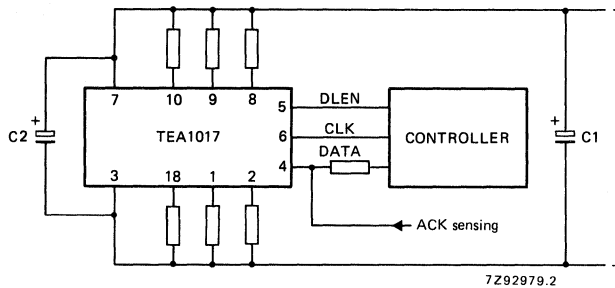

Fig. 5 TEA1017 with 3 loads to V_{CC} $Q = 0$ and 3 loads to V_{EE} $Q = 1$.
2. If no use is made of the acknowledge information it is advised to program the data-output from the controller to LOW during the time ACK is valid. To use the acknowledge information the data-output has to be programmed HIGH. When a push-pull controller device is used a series resistor has to be connected in the data-line between the controller and TEA1017. The ACK may be sensed on the TEA1017-side of this resistor. See Fig. 5.
In the frequency regulation mode the output is LOW from the start of the cycle until the voltage on the capacitor reaches 2 V. The capacitor is further charged until its voltage reaches the voltage on either the feedback input FB or the limit setting input LIM, provided it has exceeded 2,2 V. As soon as the capacitor voltage reaches 5,9 V the capacitor is discharged rapidly to 1,3 V and a new cycle is initiated (see Figs 5 and 6).